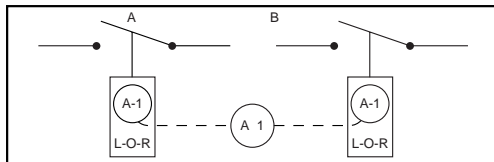

Figure 1
**Sample Application—1** (see Figure 1)
Two devices are shown in Figure 1. In operation they are not closed at the same time. With the interlocks arranged as shown only one key is required in the interlocking system. Both devices are shown open, therefore, the key is free. To close any one device the key is inserted and turned in that particular lock, the key is held in this lock until the device is again locked open. This simple interlocking sequence lends itself to a multitude of applications. The procedure is the same for two devices, neither of which is to be opened at the same time.